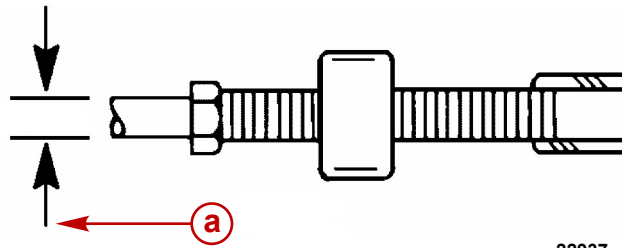

Figure 7. Older shift cable conduit
4. Larger diameter shift cable conduit (to accommodate larger diameter core wire). (Figures 7 & 8)